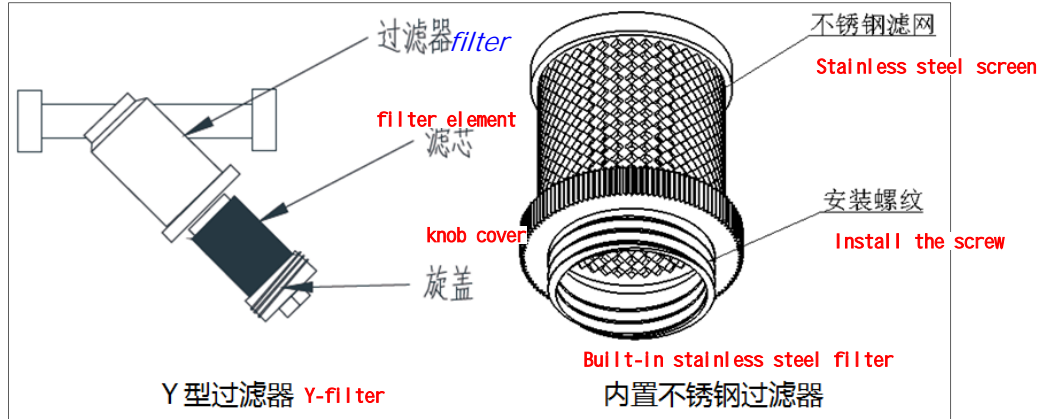

Figure 13 Two kinds of filters commonly used by our company
- Clean the filter in the water circuit of the equipment regularly. Generally, the filter is cleaned once every 7-10 days. The two types of filters commonly used by our company are shown in Figure 13. The Y-type filter is installed at the water pump suction or the equipment outlet with a built-in stainless steel filter. The device is placed in the water tank;